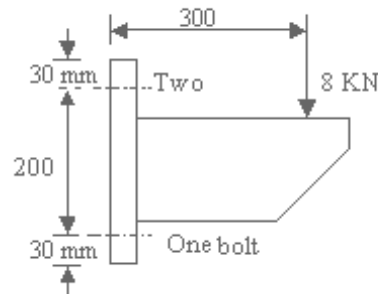

Figure 5
5. Determine the bolt size for the bracket shown in Figure 5. The design shear stress may be taken as 35 MPa. [16]